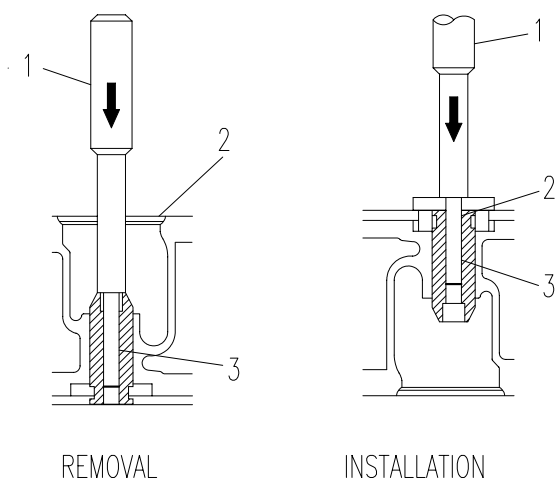

Figure 6-5. Valve Guide
- a. Press valve guide (3, Figure 6-5) out of cylinder head (2) with a valve guide replacing tool (1).